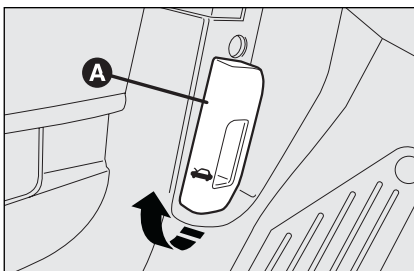

fig. 96
- pull lever **A-fig. 96** in the direction of the arrow;